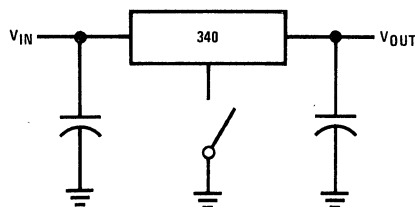

FIGURE 2. Regulator Floating Ground
**Regulator Floating Ground (*Figure 2*):** When the ground pin alone becomes disconnected, the output approaches the unregulated input, causing possible damage to other circuits connected to  $V_{OUT}$ . If ground is reconnected with power "ON", damage may also occur to the regulator. This fault is most likely to occur when plugging in regulators or modules with on card regulators into powered up sockets. Power should be turned off first, thermal limit ceases operating, or ground should be connected first if power must be left on.